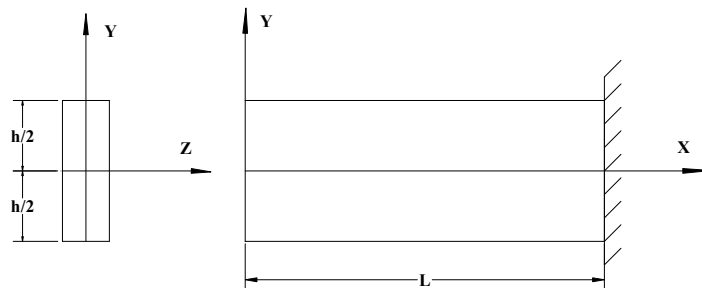

Figure-1
2. Given $\phi = \frac{1}{6}Cxy^3 + Bxy$ where C and B are constants. Solve the cantilever problem shown in figure-1. Show that $B = \frac{3P}{2bh}$ and $C = -\frac{8B}{h^2}$. Find the stress field.
4. For an equilateral triangle of side $2h/\sqrt{3}$ as shown in figure-1, the stress function is given by $\phi = \frac{G\theta}{2h} \left[\left\{ x - \sqrt{3}y - \frac{2h}{3} \right\} \left\{ x + \sqrt{3}y - \frac{2h}{3} \right\} \left\{ x - \frac{h}{3} \right\} \right]$. Show that $\theta = \frac{15\sqrt{3}T}{Gh^4}$.